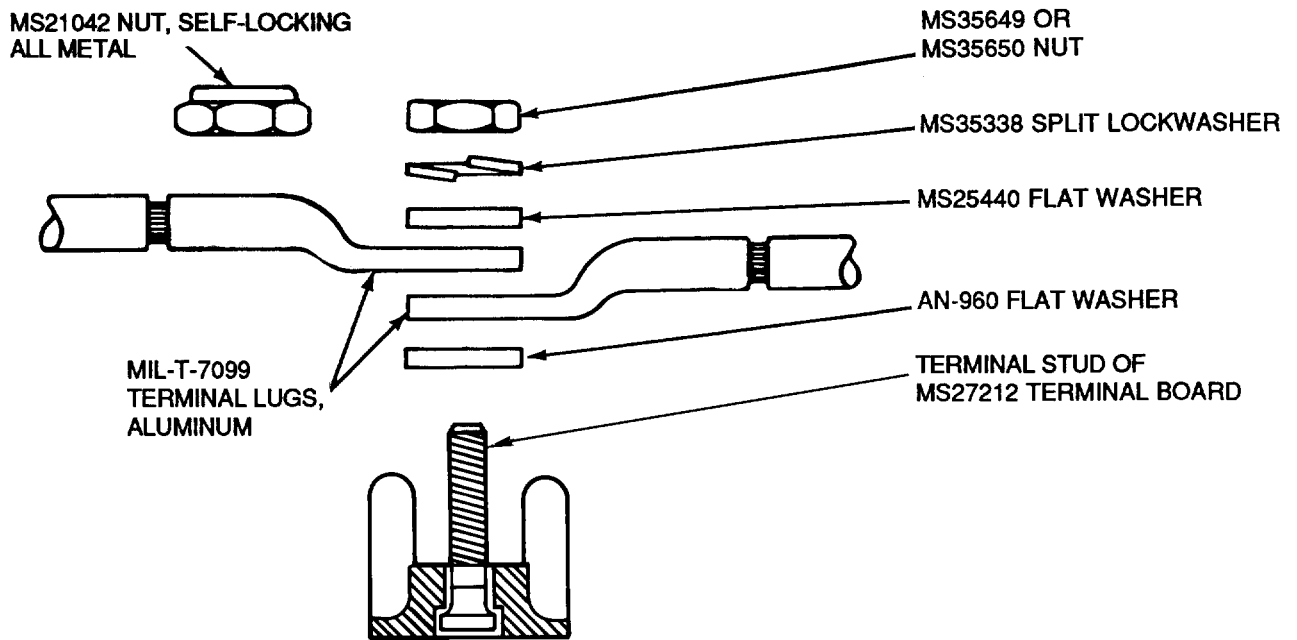

Figure 15. Hardware for Wiring Terminal Boards with Aluminum Terminals
39. **ATTACHING ALUMINUM TERMINALS.** To attach aluminum terminals to terminal boards special washers are required as shown in Table 3. Proceed as follows (Figure 15):
42. Assemble in proper sequence (Figure 15).